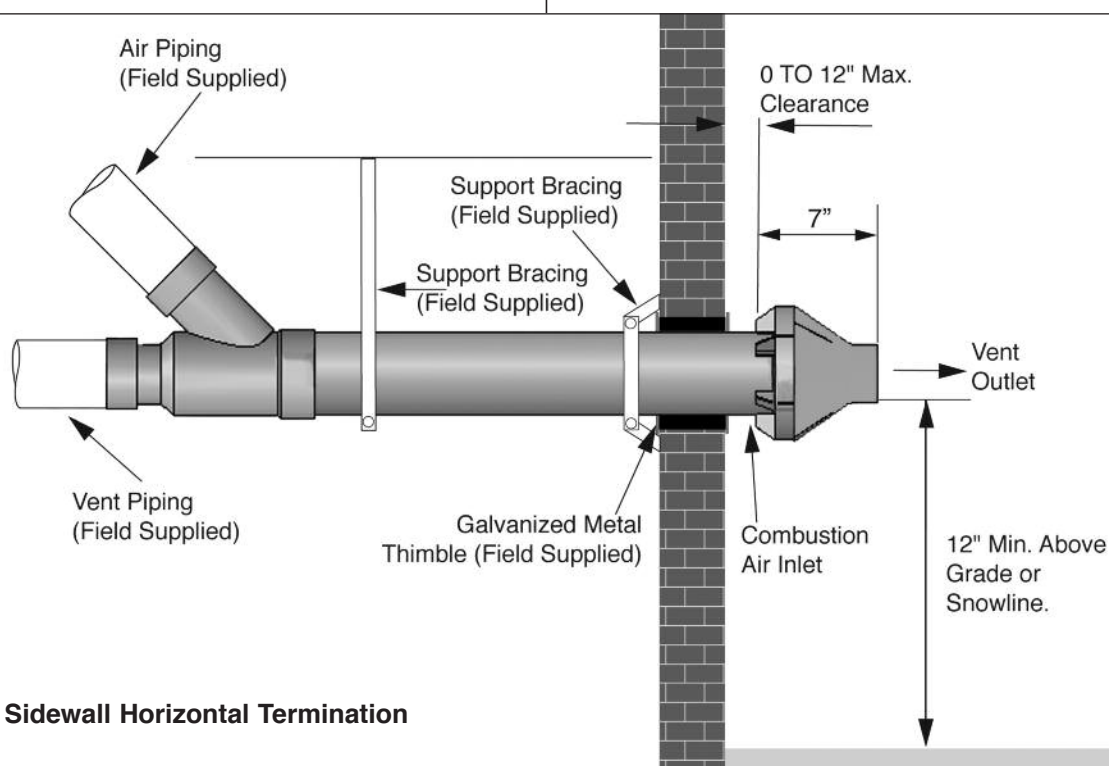

Fig. 4: Sidewall Horizontal Termination
2. The concentric vent/air termination assembly must be installed 12 inches above grade or projected snowline as shown in Fig. 4
Do not extend the vent pipe outside the sidewall beyond the given dimensions shown in Fig. 4. Extended exposure of the vent pipe could cause condensate to freeze and block the vent pipe.
2. Support the termination assembly at the wall penetration as shown in Fig. 4.
Reference Fig. 4 page 8 for the configuration dimensions for the vent and combustion air inlet terminations for each unit installed in a multiple installation. Assembling Termination Components